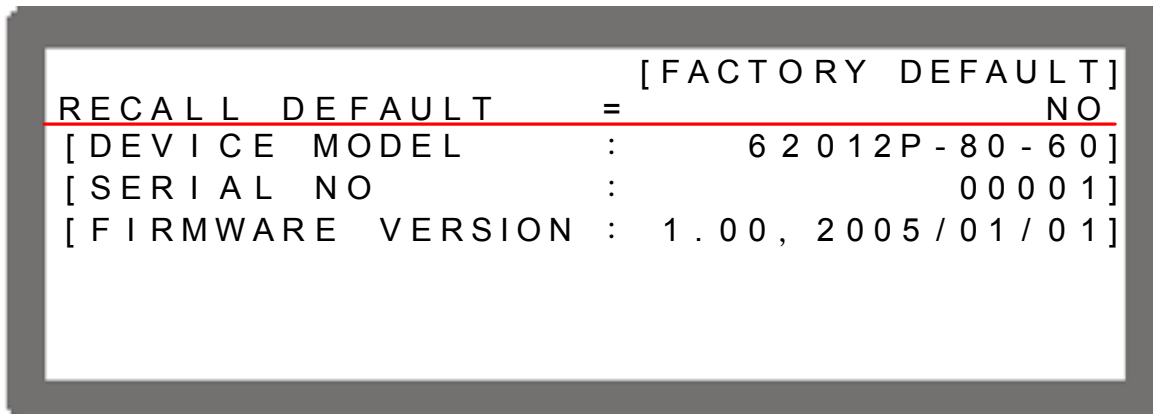

Figure 3-96
1. In Config Setup page, press “**6**” to show Figure 3-96.